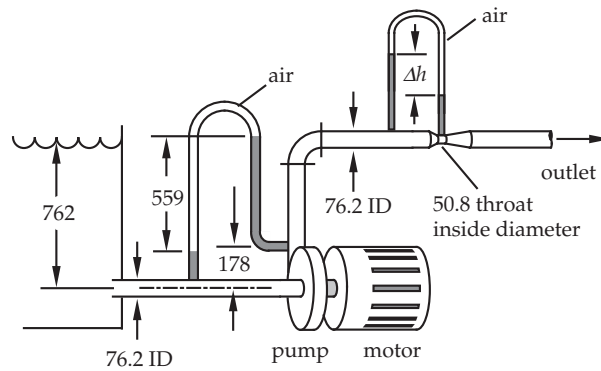

FIGURE P2.47.
47. A pump draws castor oil from a tank, as shown in Figure P2.47. A venturi meter with a throat diameter 50.8 mm is located in the discharge line. For the conditions shown, calculate the expected reading on the manometer of the meter. Assume that frictional effects are negligible and that the pump delivers 186.5 W to the liquid. If all that is available is a 1.83 m tall manometer, can it be used in the configuration shown? If not, suggest an alternative way to measure pressure difference. (All measurements are in mm.)